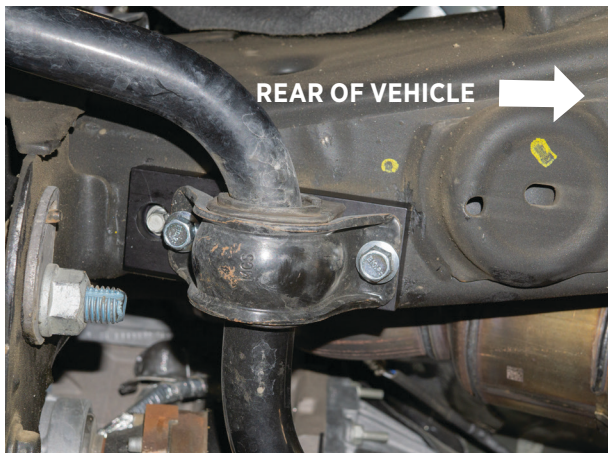

Fig. 7: Torque the hardware.
8. Torque the hardware to manufacturer specification (Fig. 7).